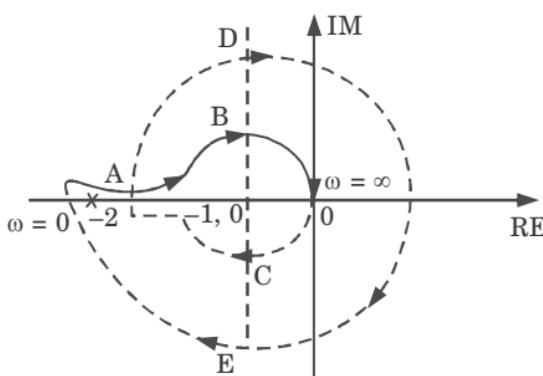

Fig. 10.
5. The corresponding Nyquist plot is shown in Fig. 10.